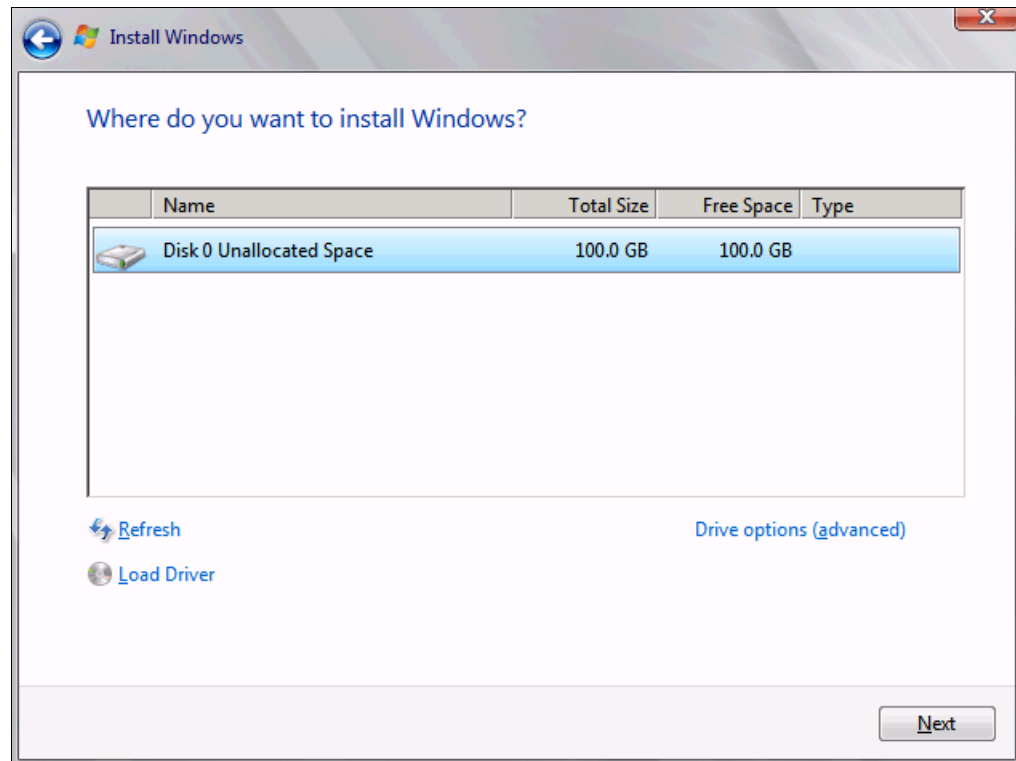

Figure 9-134 Selecting the LUN to install Windows
15. In the “Where do you want to install Windows” panel (Figure 9-134), when you see your LUN, select the disk, and then click **Next**.